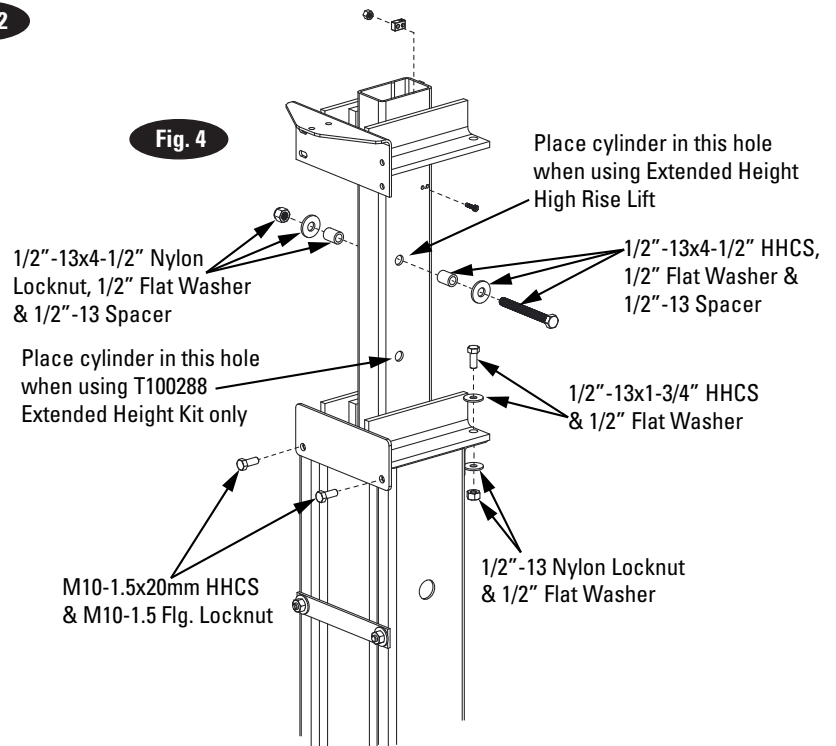

Fig. 4
4. Column Extension (Extended Height): Column extension is installed using (2) M10-1.5x20mm HHCS & (2) M10-1.5 Fig. Lock Nut on the inside of the lift column. Use (2) 1/2"-13x1-3/4" HHCS, (4) 1/2" Flat Wahser, and (2) 1/2"-13 Nylon Locknut on the outside of the column, Fig. 4. After the extension is installed install the latch cable guide on the outside of extension using (1) 1/4"-20NC x 1" HHCS and 1/4"-20NC Flanged Locknut, Fig. 4. Attach tie bar to column with (2) 1/2"-13x1-3/4" HHCS, (2) 1/2" Flat Washer, and (2) 1/2"-13 Nylon Locknut, Fig. 4.